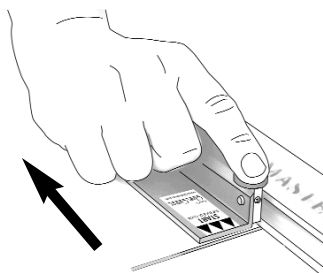

fig. 2 Place your index finger onto the knob and apply even pressure whilst cutting.
2. Start with the indicator arrows, on the base of the cutter, level with the top edge of the glass. Place your index finger on the head knob (fig. 2), and with an even downwards pressure draw the cutter back towards you. Do not press too hard.